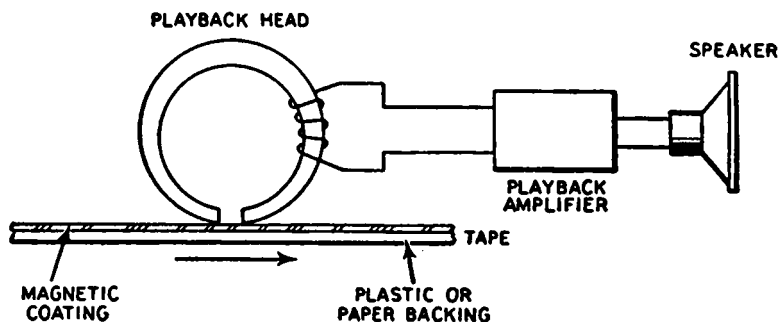

Fig. 6-2. Tape recorder—playback function.
*The playback process.* Figure 6-2 is a simplified illustration of the playback process. The pre-recorded tape passes in front of the poles of an electromagnet (the playback head) at the identical speed used in the recording process. A basic principle of electricity tells us that whenever a changing magnetic field cuts across a conductor a voltage is set up, or induced, in the conductor. The magnetic field